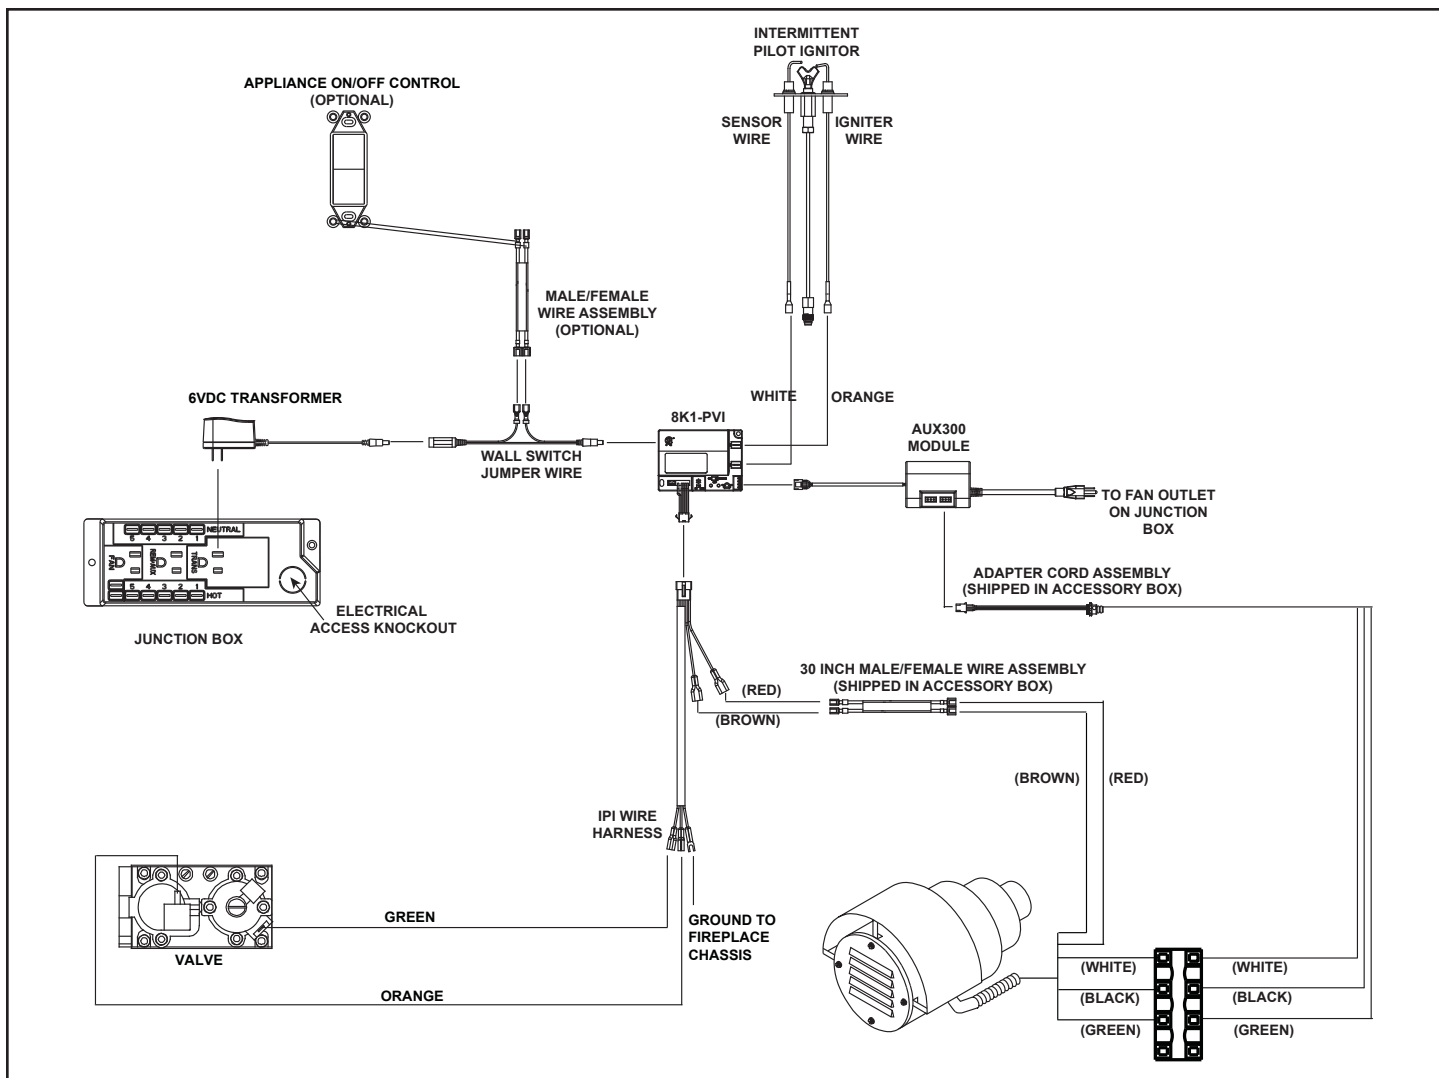

Figure 1. PVK-80 IntelliFire Plus Wiring Diagram
1. Replace the existing wire harness with the Power Vent Wire Harness included in the kit. Reattach ground screw and connect orange and green wires to the valve as shown in Figure 1.
2. Replace the existing black Intellifire Plus Control Module with the black or gray Power Vent Control Module included in the kit as shown in Figure 1 and connect to the Power Vent IPI Wire Harness. The Power Vent Module is denoted with a "Yellow" label.
3. For appliances without an AUX control, install the Aux control included in the kit and connect to the Power Vent Control Module (8K1-PVI) and plug into the junction box "AUX" location. This AUX control will provide power to the power vent termination cap. See Figure 1.
- This mode requires the installation of wired on/off wall control. See Figure 1.